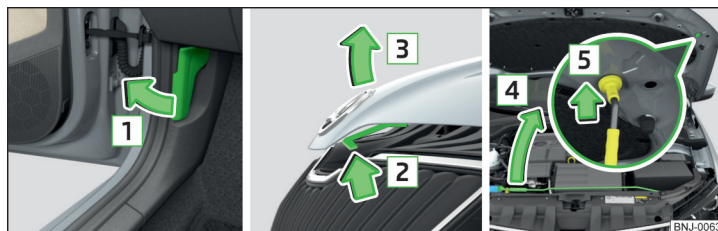

Fig. 246 Opening the bonnet
- Open the front door and pull the release lever below the dash panel in the direction of arrow **1** » Fig. 246.